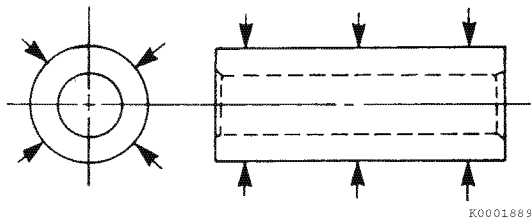

Figure 6-66
7. Measure the outside diameter of the wrist pin in three places and at 90° (Figure 6-66). See *Piston on page 6-9 for specifications*. Record the measurements.